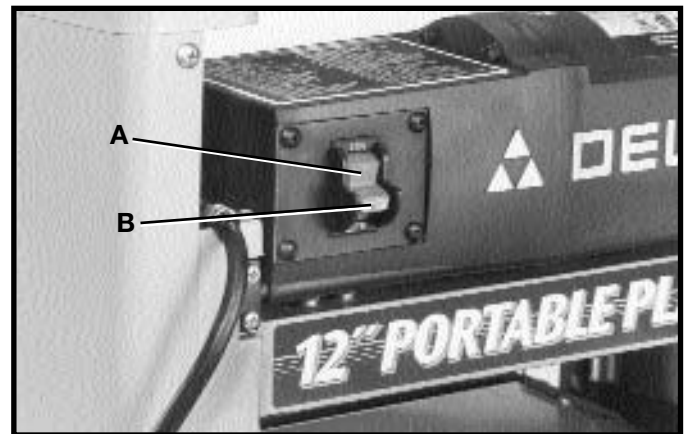

Fig. 13
The "ON/OFF" switch (A) Fig. 13, is located on the front of the planer motor. To turn the machine "ON", move the switch toggle (B) to the up position. To turn the switch "OFF", move the switch toggle (B) to the down position.